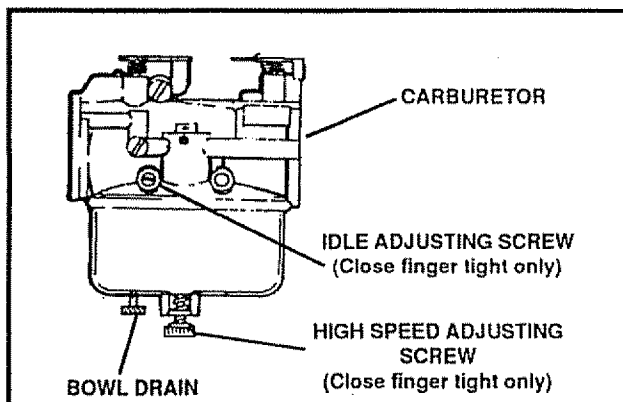
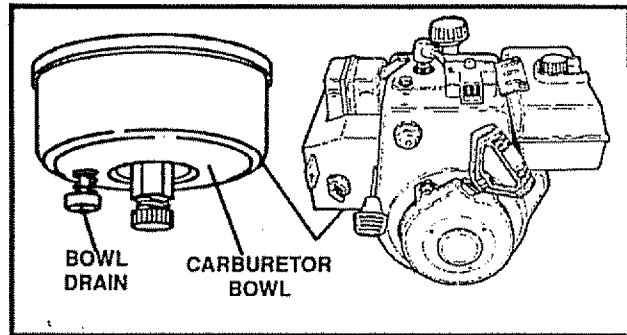

FIG. 35
FIG. 37
The carburetor (See Fig. 35 and Fig. 37(page 25) has been pre-set at the factory and readjustment should not be necessary. However, if the carburetor does need to be adjusted, proceed as follows:
- To remove gasoline, run the engine until the tank is empty and the engine stops. Then drain remaining gasoline from carburetor by pressing upward on bowl drain located on the bottom of carburetor (See Fig. 37).